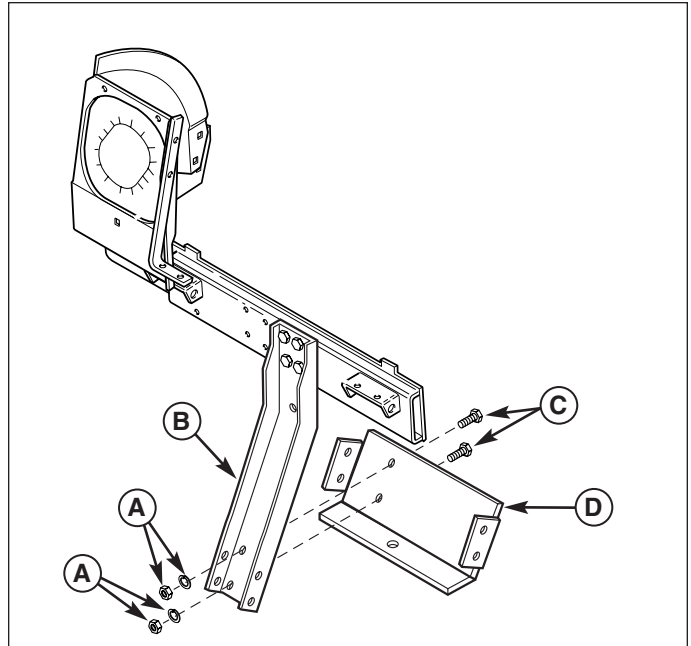

Figure 6. Assemble Catcher Frame (Prestige Shown)
3. Bolt the lower support plate (D, Figure 6) to the upright support (B) using two 3/8-16 x 1 cap screws (C), lockwashers, and 3/8-16 nuts (A).